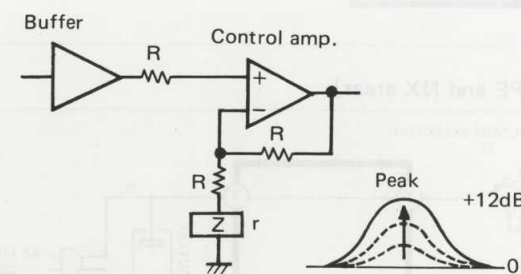
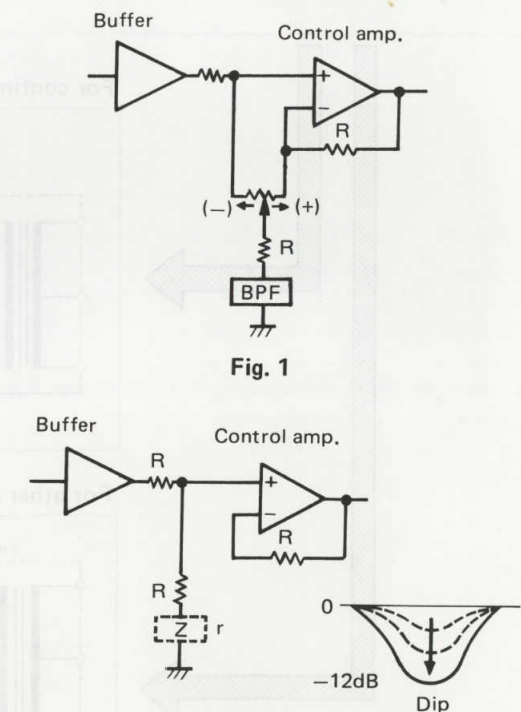

Fig. 2
Fig. 3
The equalizer circuit of this unit is shown in Fig. 1. When the control volume (VR) is turned in the direction of  $\rightarrow (+)$ , NF level lowers with the connection shown in Fig. 2, causing the gain of operation amplifier to increase, then the "peak" appears. Contrarily, when VR is turned in the direction of  $\leftarrow (-)$ , the input impedance of operation amplifier becomes lowered with the connection shown in Fig. 3. Then the frequency level is "dip".